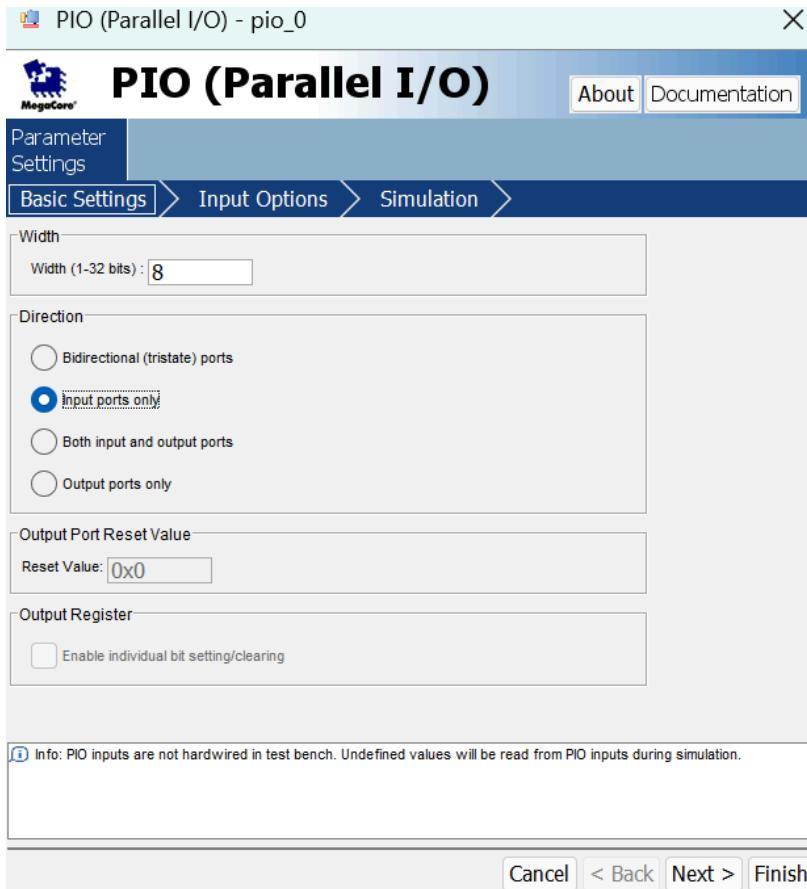

Figure 9. Define a parallel input interface.
- Select Peripherals > Microcontroller Peripherals > PIO (Parallel I/O) and click Add to open the PIO Configuration Wizard (Figure 9).